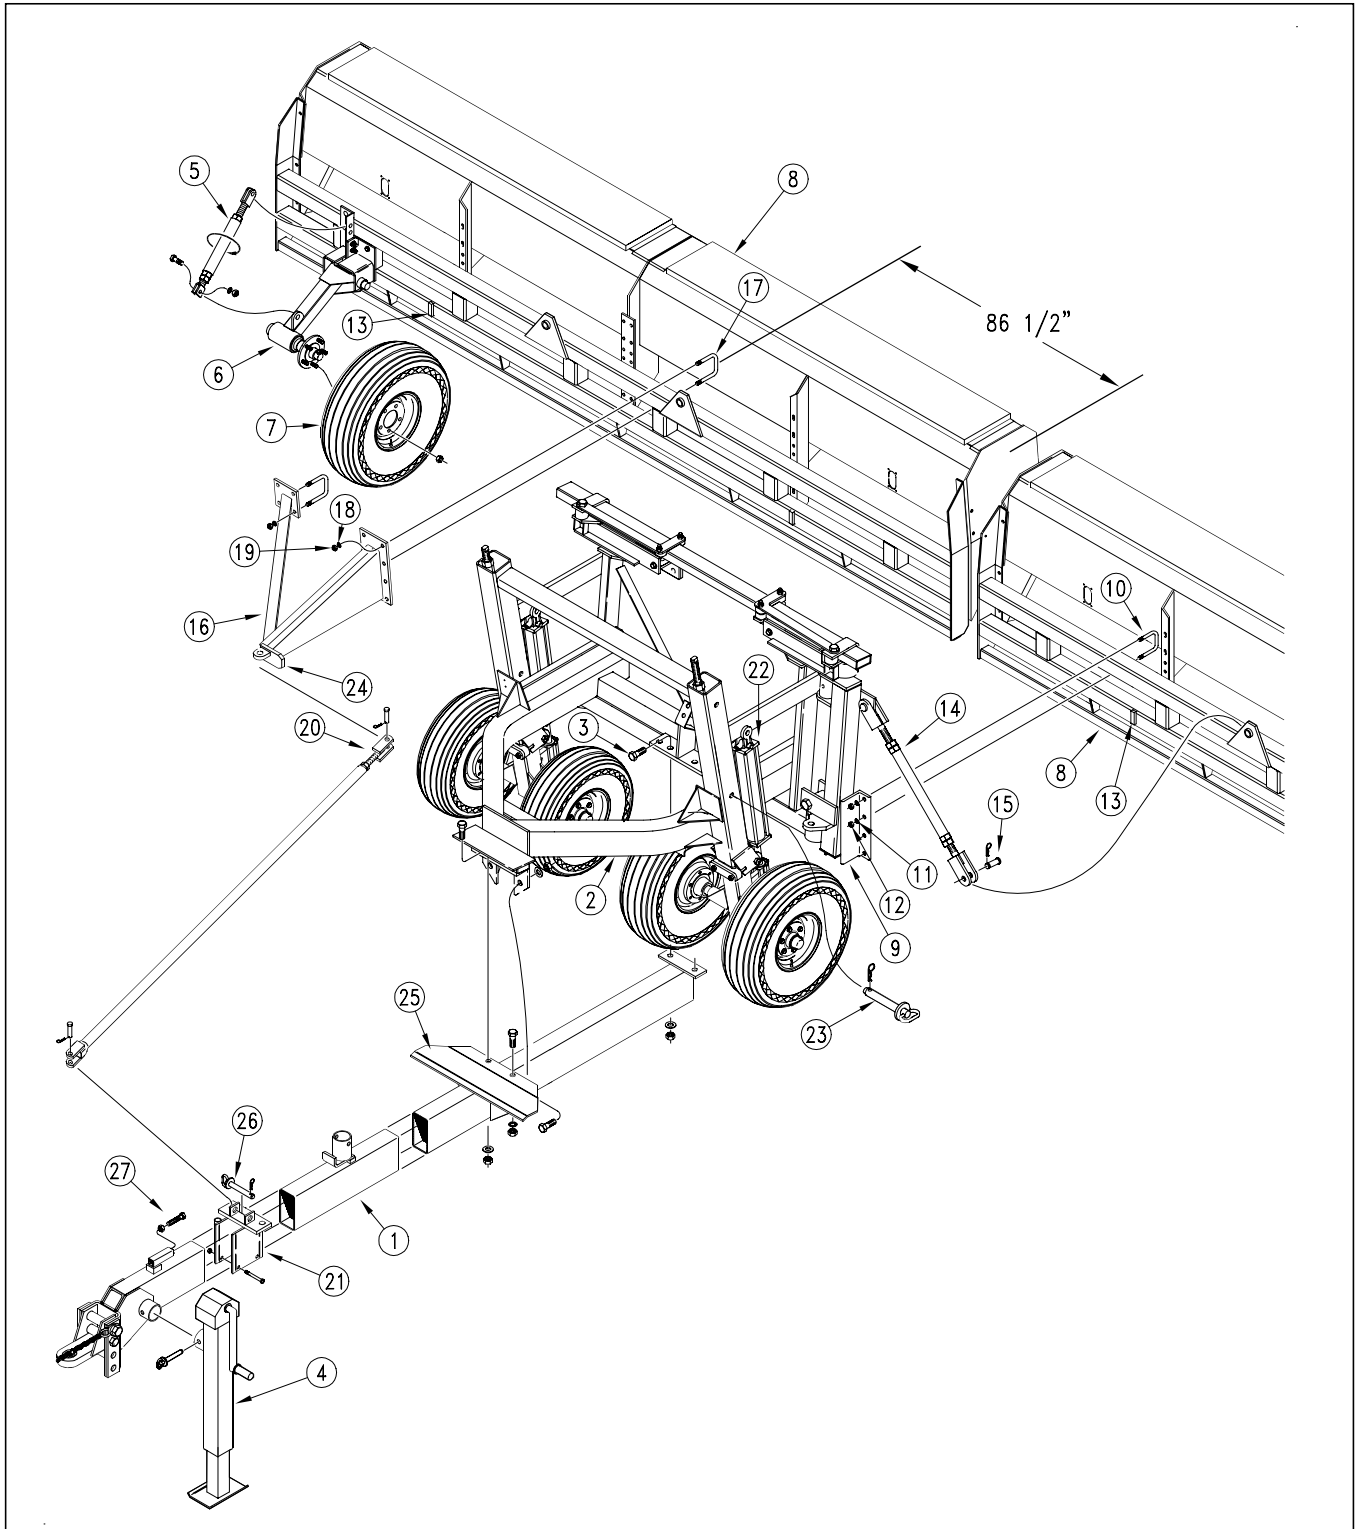

Figure 45
- Refer to Figure 45**
3. Set the tongue ① approximately 21 inches off the ground in a horizontal position with stable blocking for support.
4. Raise the mainframe ② up, keeping the side members horizontal. Position the mainframe ② over the tongue ① and lower into position.
5. Secure tongue ① to main frame ② with six 1 X 21/2 inch long bolts ③, lock washers and nuts.
6. Attach the tongue screw jack ④ in a vertical position and remove blocking so the unit is on the ground.
10. Attach the gauge-wheel turnbuckle ⑤ to the gauge-wheel arm ⑥ on each drill and then mount the wheel ⑦ and tire.
12. Using the tractor, back the drill main frame up to the center of the two drill boxes ⑧. When close, position the posts ⑨ on each side of the main frame so the face of the post mounting angles are toward the drill frames. Attach the post ⑨ to the drill frames ⑧ using eight 5/8 X 31/2 X 5 inch long U-bolts ⑩, lock washers ⑪ and nuts ⑫. With the U-bolts ⑩ left
- loose, slide the drill frames ⑧ inward so that the lugs ⑬ welded to the drill frames are up tight against the post angles. Tighten all the nuts on the U-bolts.
13. Attach frame adjustment link ⑭ from the drill frame to the pivot post using the clevis pin ⑮ with hairpin cotter. Pin to pin should be approximately 37 inches.
14. Locate drill transport stabilizer frame ⑯ 86½ inches from the outside edge of each box frame see Figure 45. Using ⅝ inch U-bolts ⑰, lock washers ⑱ and nuts ⑲, mount stabilizer to box frame. Repeat for other side.
15. Adjust clevis end of pull bars ⑳ so that the distance from the center line to center line of pull bar pin holes is approximately 134 ¼ inches.
16. Mount pull bars to drill transport stabilizer frames ⑯ and tongue slide ㉑. With the tongue slide in the back position against its stop, adjust pull bar lengths so boxes are in line with one another and parallel to the back edge of the mainframe.